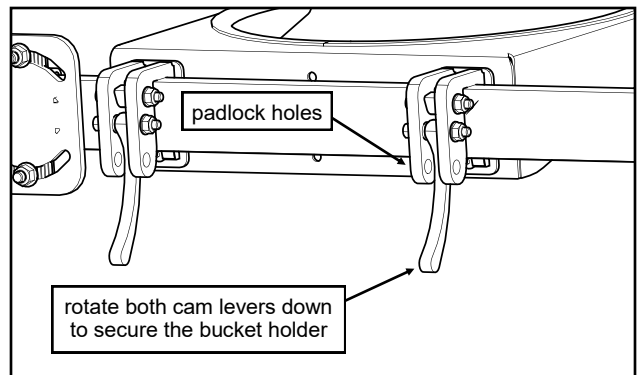

Fig. 3 (cam lever in the closed position)
3. To secure the bucket holder to the Tool Bar, rotate both cam levers DOWN until they cam over. See fig. 3.
*NOTE: For additional security, the bucket holder can be locked to the Tool Bar by inserting a padlock through the holes in the mounting bracket where shown in fig. 3.*